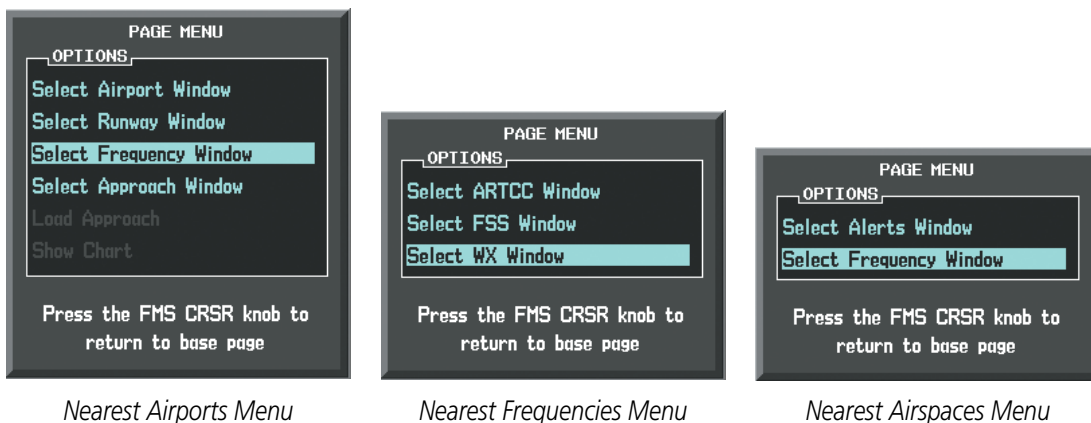

Figure 4-13 Nearest Pages Menus
- 1) On the Nearest Airports, Frequencies, or Airspaces page, press the **MENU** Key to display the page menu (Figure 4-13).